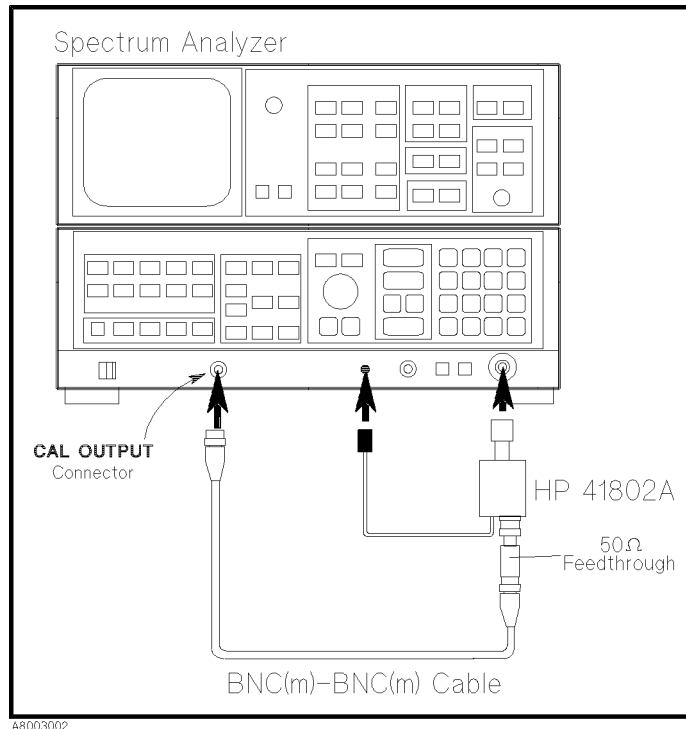

Figure 3-3. Operating Check Setup Using Spectrum Analyzer
1. Connect the equipment as shown in Figure 3-3. Note that the probe power plug must be connected before the 41802A's N-type connector.